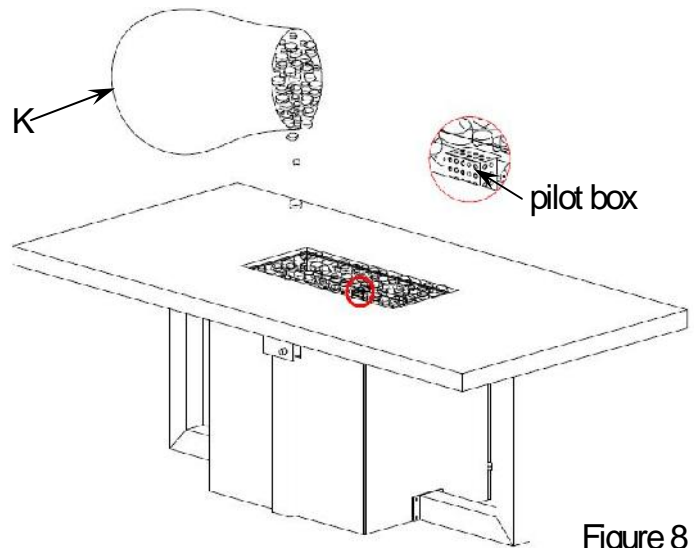

Figure 8
9. Place Fire glass (K) around the burner, then remove the label from the pilot box (see Figure 8). A gas fire pit requires 26.4 lbs fire glass.